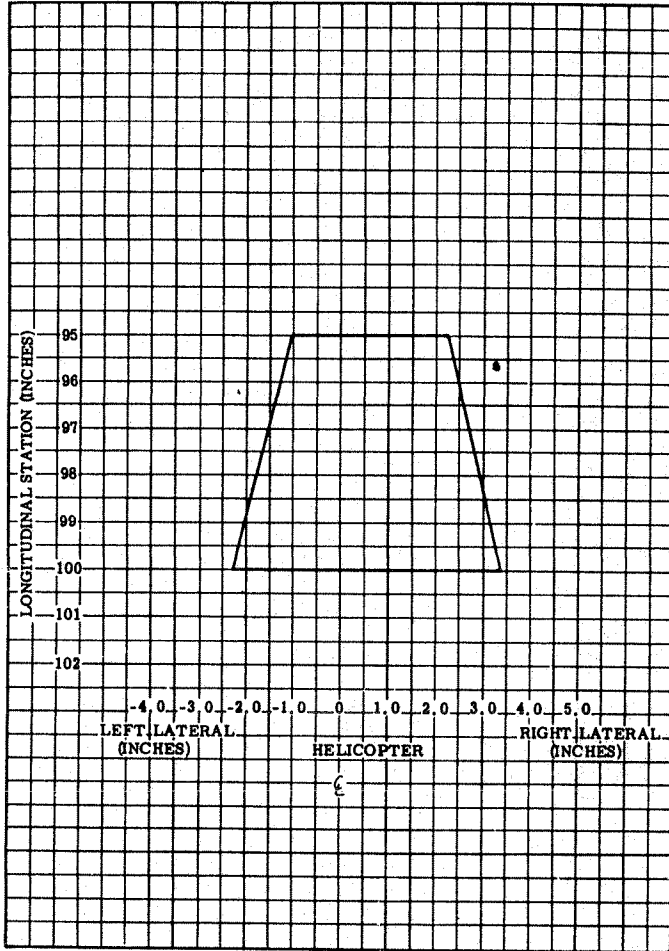

Figure 2. Litter and Float Combination CG Limits
2. Litter and float CG limits diagram (see Figure 2).